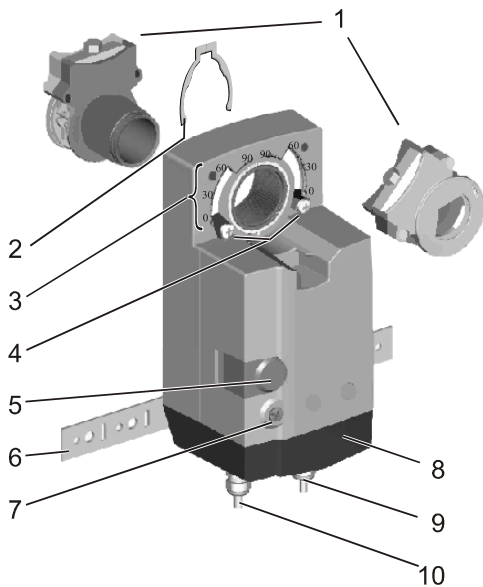

Fig. 2. Setting units and control elements
- Legend for Fig. 2:
The delivery package includes the actuator itself, parts 1 through 10 (see Fig. 2; in the case of U.S. models – e.g. MN6120 – parts 1 through 8), the anti-rotation bracket screws, and the SM mounting plate and screws.
The rotation direction (clockwise or counterclockwise) can be selected using the rotation direction switch (see part 7 in Fig. 2), thus eliminating the need to re-wire. To ensure tight closing of the dampers, the actuator has a total rotation stroke of 95°.